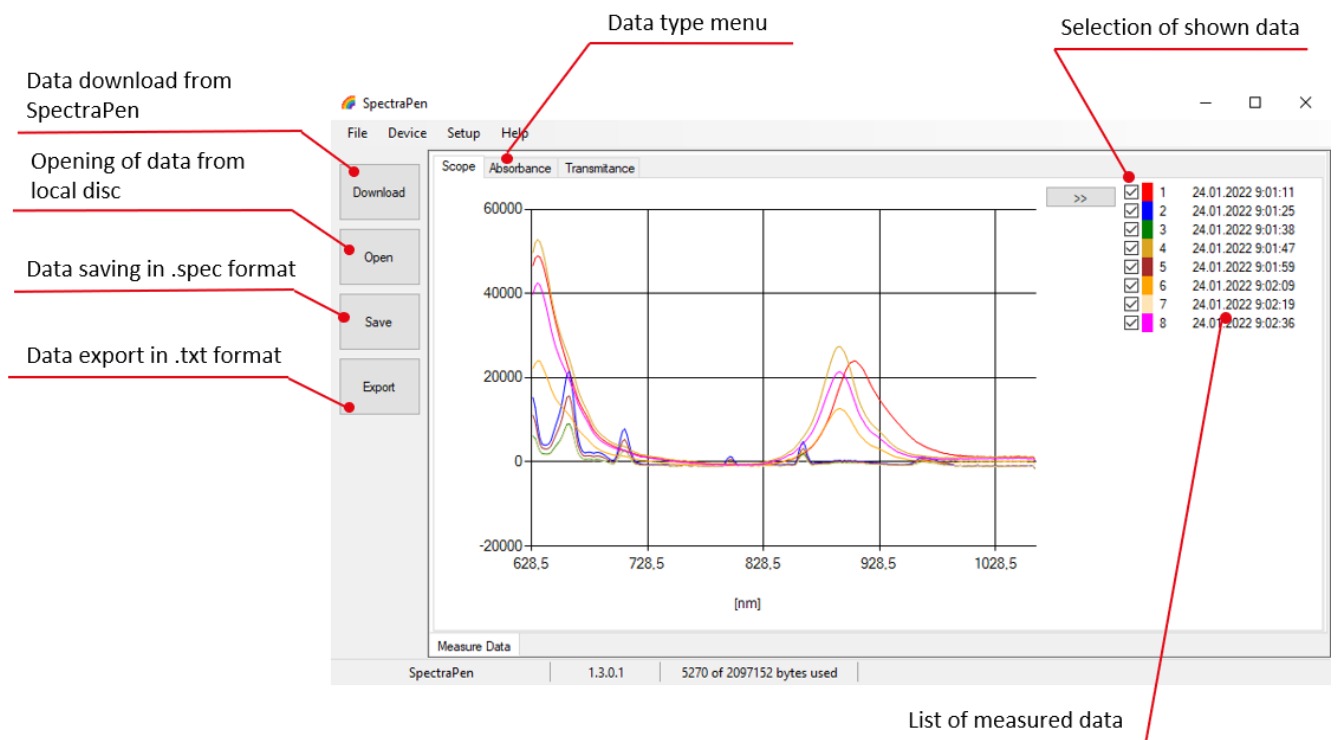

Fig. 24 Scope spectra.
5. Visualization modes: **Scope** mode window is always displayed as the default. To view calculated spectrum go to **Absorbance** or **Transmittance** tab (Fig. 24).
6. All data that are downloaded are displayed in the Scope window after download from the SpectraPen. The user can select the set of measurements to be displayed by marking and unmarking the data from the **selection** list (Fig. 24).